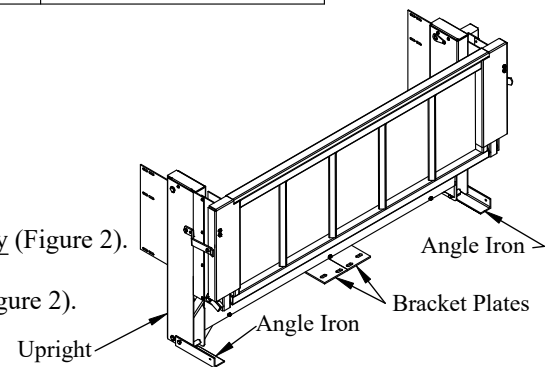

Figure 2: Complete liftgate (**G2** shown).
4. **Unbolt** and **Save** the two (2) angle irons attached to the liftgate uprights- **G2 only** (Figure 2).
5. **Remove** and **Save** the two (2) bracket plates attached to the liftgate- **G2 only** (Figure 2).